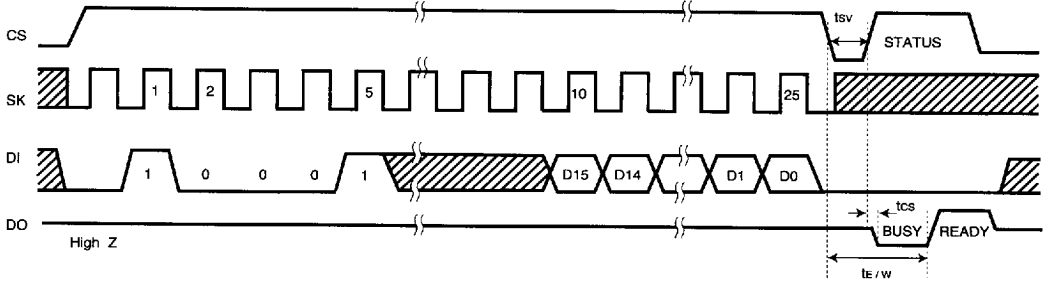

Fig. 5 All address write cycle timing.
(7) All address write (Figure 5)